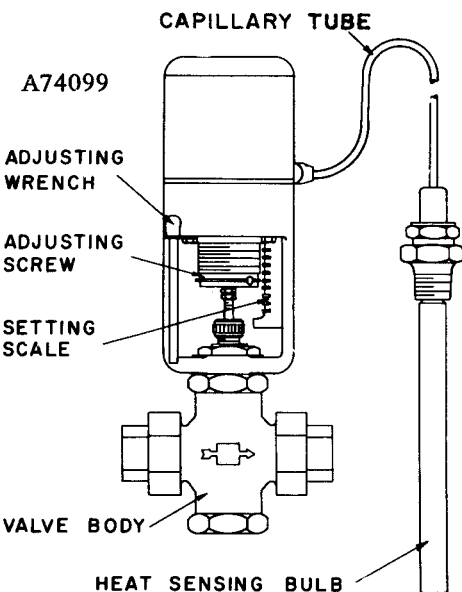

FIGURE 12. – WATER CONTROL VALVE
**COMPRESSOR OIL COOLER – WATER COOLED HEAT EXCHANGER** (Figure 6) – The optional heat exchanger type cooler is the multiple pass type, with water in the tubes and oil in the shell. The water flow is controlled by a self-operated control valve (Figure 12) installed in the water inlet line to the cooler as shown in flow diagram (Figure 3), and is designed to maintain the oil injected into the compressor at 130° F. - 140° F. The valve's temperature sensing bulb is located in the oil discharge line of the cooler. A temperature change at the bulb operates the valve, increasing or decreasing the water flow. A thermometer in oil line at oil cooler outlet registers temperature of oil into compressor. A malfunction of the oil side of the oil cooler may be traced by checking pressure at oil inlet and outlet. Fittings at these locations are equipped with 1/4" pipe tap for gauge. At normal operating air service pressure (65 to 150 PSIG) with unit warm, a pressure drop of 2 to 6 PSI can be expected between oil inlet and oil outlet.
**WATER CONTROL VALVE FOR HEAT EXCHANGER** (Figure 12) – The water control valve is adjustable to compensate for varying inlet water temperatures. To decrease water flow (increase oil temperature) insert adjusting rod into one of the holes in the adjusting screw and move from left to right, increasing spring tension. To increase water flow (decrease oil temperature) turn screw in the opposite direction. The rib through the adjusting screw wrench holes is an index line for use with the index scale 0 to 8 in obtaining a desired setting.